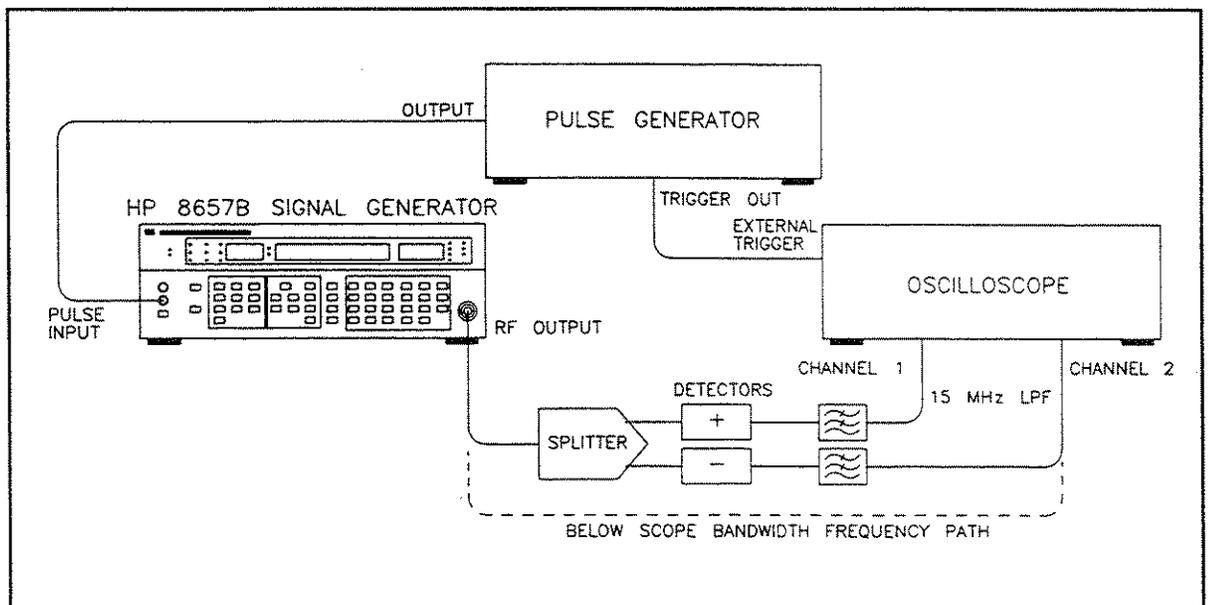
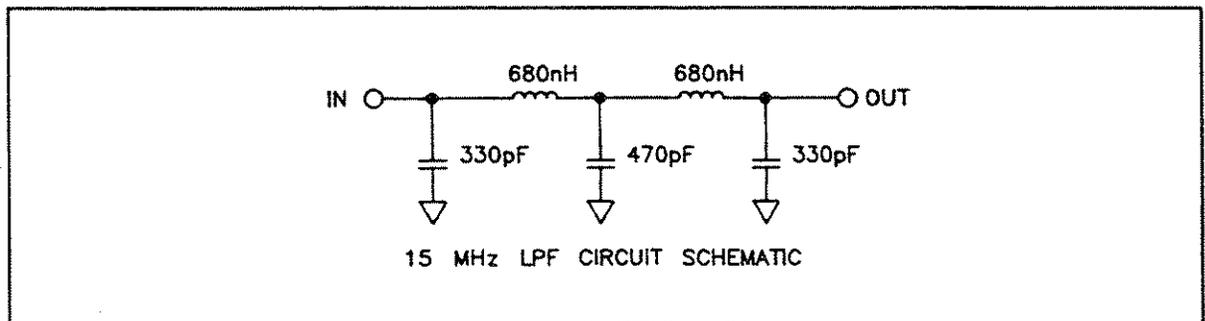

Figure 4-14. Rise/Fall Time Test Setup with Peak Detectors
Figure 4-15. Schematic for 15 MHz Low Pass Filters
- 15 MHz Low Pass Filter (2 Required) (See Figure 4-15)
36. Connect the equipment as shown in Figure 4-14. Low Pass Filters can be constructed using the schematic in Figure 4-15.